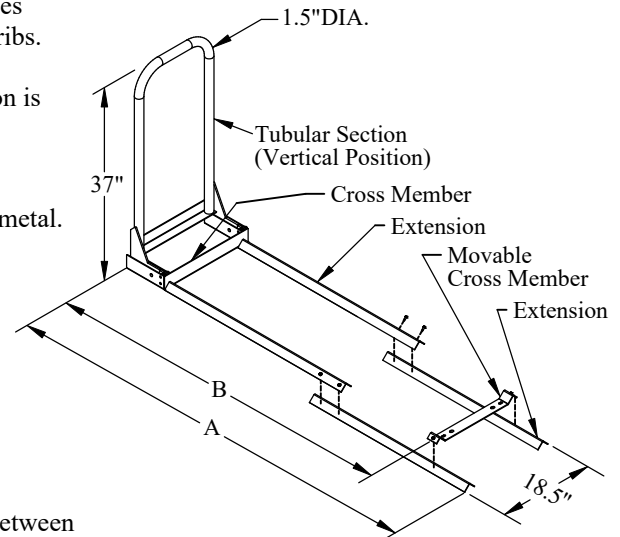

Figure 3: Tire rack in unfolded position.
1. **Arrange** the tire rack and extensions on the platform so that the A dimension is at least 1" narrower than the platform flat loading surface (Figure 3).
4. **Position** the movable cross member at the B location so that it is centered between platform ribs, if possible (Figure 3, Table 1). Align cross member holes with existing holes in the Tommy Traction or Bar Grate surface, if applicable.
7. **Drill** holes through the tire rack and platform as needed for two bolts per cross member. Use the 1/2" bolts for Tommy Traction (TT) and Bar Grate (BG), and 3/8" bolts for all other platforms.
8. **Attach** the tire rack to the platform with supplied hardware. Install washers on top and bottom for Aluminum (EA), top only for Tread Plate (TP), and bottom only for TT platforms. Install backer plates on bottom for BG platforms. Install bolts on bottom.